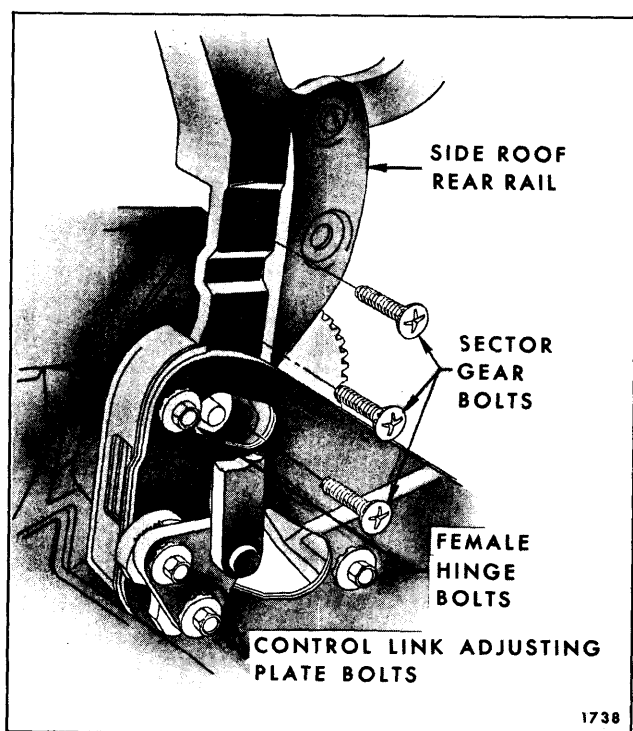

Fig. 13-72—Actuator and Top Control Link Attachment - "Z" Styles
5. Remove bolts securing side roof rear rail to sector gear (Fig. 13-72).
6. Mark location of control link adjusting plate on folding top compartment brace (Fig. 13-72).
1. Install female hinge attaching bolts to new actuator assembly, using washer scribe marks as guide (Fig. 13-72).
2. Install control link adjusting plate attaching bolts, using scribe mark of control link as guide (Fig. 13-72).
3. Manually move sector gear until all attaching bolts can be easily installed; then tighten sector gear attaching bolts (Fig. 13-72).
8. Mark location of female hinge attaching bolt washers on folding top compartment brace (Fig. 13-72).